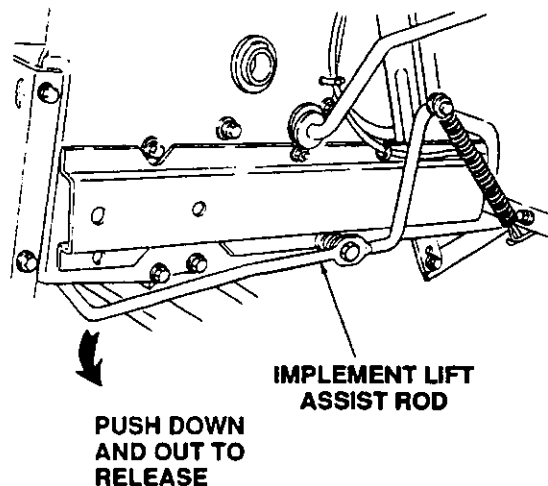

Figure 23
19. Raise tractor implement lift handle to its highest setting. Push downward and outward on rearward end of each of the two implement lift assist rods located at the right rear and left rear of the tractor. (Refer to Figure 23.)
23. Push downward and then inward on rearward end of each implement lift assist rod so disk (at rearward end of lift assist rod) is inside the tractor frame. (Refer to Figure 23.)